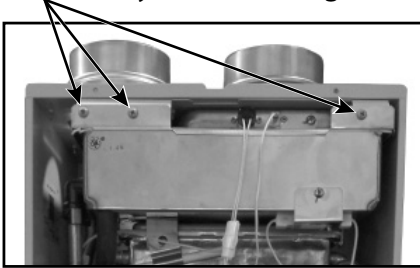

Figure 51.
- 10.4 Remove the three screws at the top of the secondary heat exchanger that are securing it to the case. Refer to Figure 51.